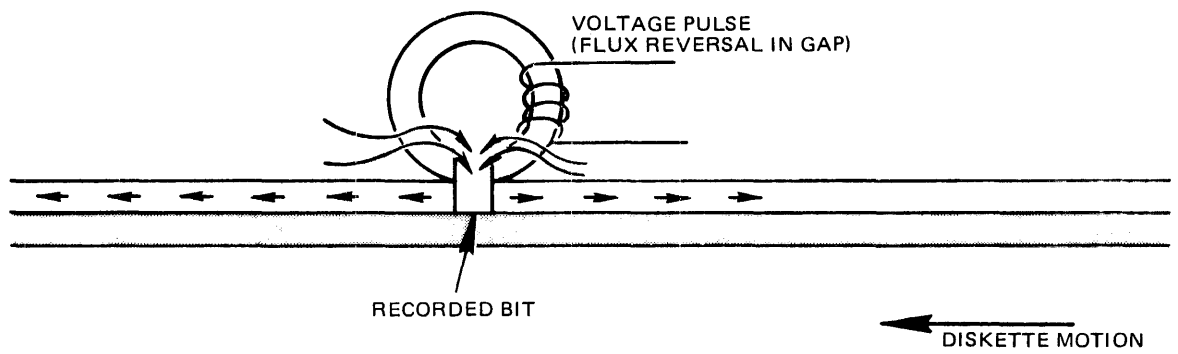

Figure 26 Reading a Bit
4.4 During a read operation, a bit is read when the flux direction in the ring is reversed as a result of a flux reversal on the diskette surface. The gap first passes over an area that is magnetized in one direction, and a constant flux flows through the ring and coil. The coil registers no output voltage at this point. When a recorded bit passes under the gap, the flux flowing through the ring and coil will make a 180° reversal. This means that the flux reversal in the coil will cause a voltage output pulse. See Figure 26.